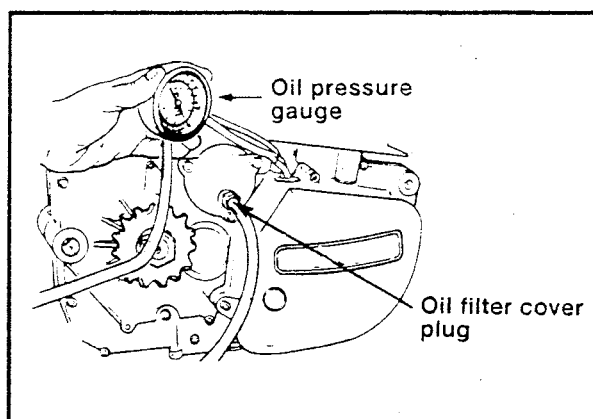

Figure 2-137. Oil Pressure Gauge Installation
- See Figure 2-137. A fuel pump pressure gauge may be used instead. A special fitting is required such as Snap-on coupling 1/4 in. pipe threads or equivalent.